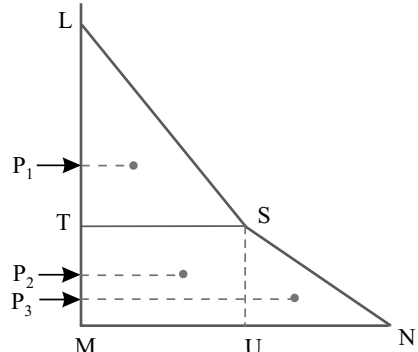

Fig. 3.21. Pressure diagram.
Total pressure (P) is calculated by drawing pressure diagram, which is shown in Fig. 3.21.